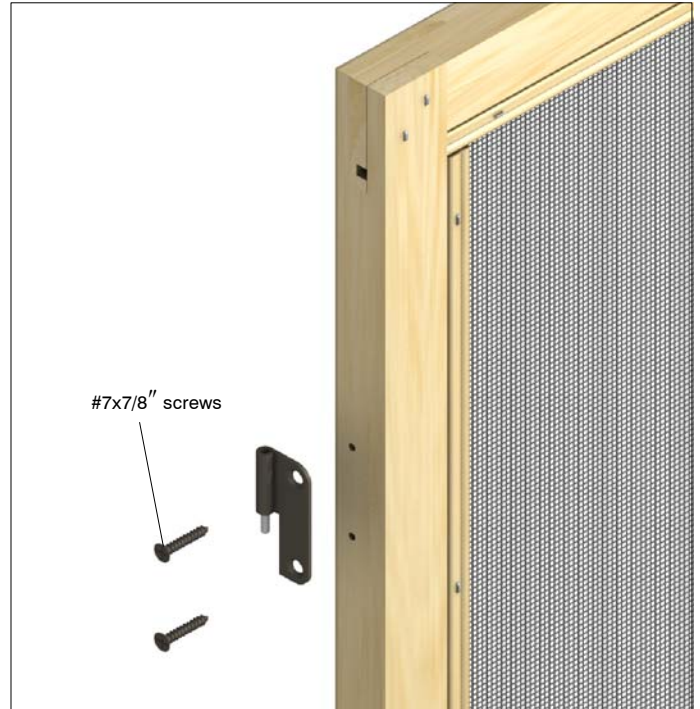

Figure 6
- Install hinges at the pre-marked locations on the screen. (Note the reversed hinge on an Awning unit will need to be applied as the screen is being installed.) See figure 6.